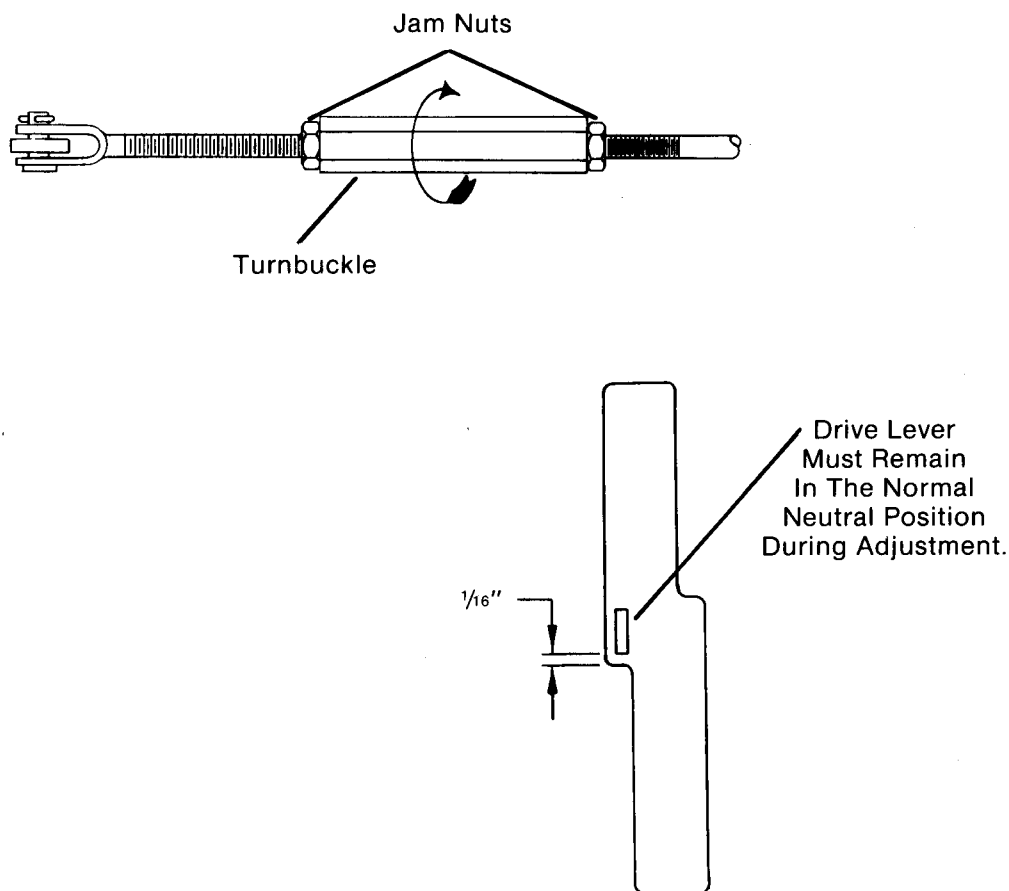

FIG. 74
- G. Place drive lever in any forward drive gear and depress clutch/brake pedal fully and set parking brake latch. (Doing this will set drive lever in its normal NEUTRAL position. (Fig. 74) DO NOT move this lever for the remainder of the procedures.
- H. Loosen jam nuts on both ends of turnbuckle (Fig. 74) NOTE: Turnbuckle is located under right side of frame just ahead of rear wheel.
- I. Check that HI/LOW speed range selector is **not** in neutral (N) position. Move P.T.O. switch to OFF position and **start the engine**. **Be sure** parking brake latch is set.
- J. Turn turnbuckle slowly (clockwise or counterclockwise) until left rear wheel stops turning. IMPORTANT: Be sure drive lever has not moved and is still in the normal NEUTRAL position on instrument panel. (Fig. 74)